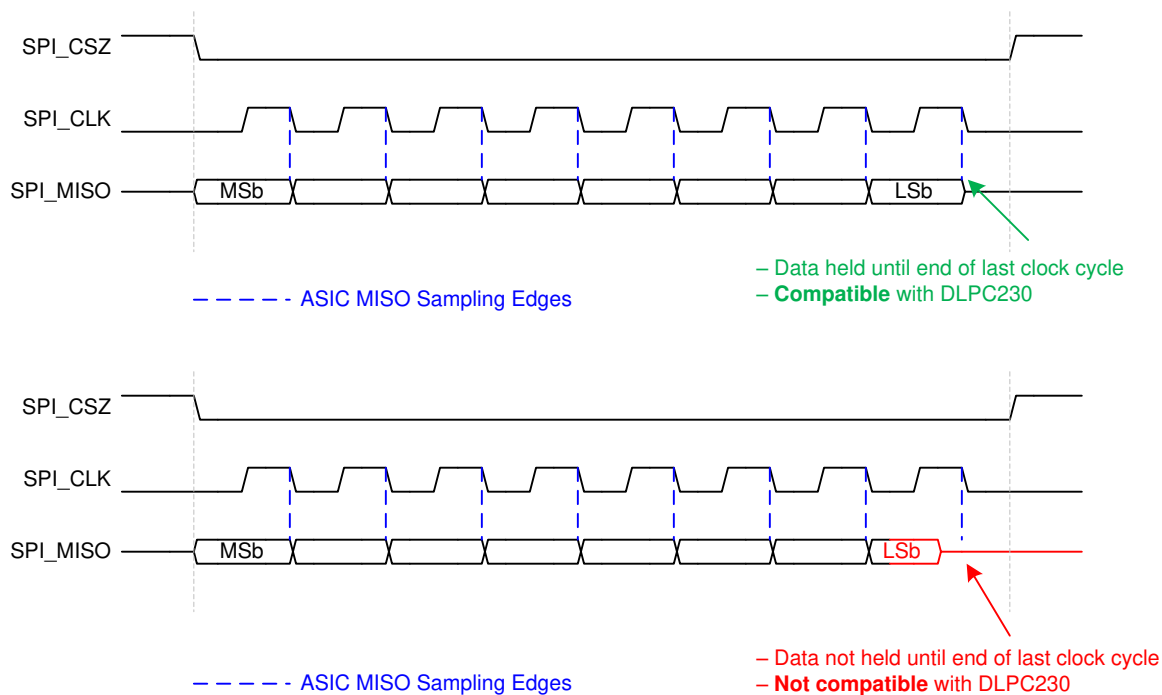

图 5-8. Flash Interface Data Capture Requirements
- (1) The DLPC23xS-Q1 communicates with flash devices using a slight variant of SPI Transfer Mode 0 (that is, clock polarity = 0, clock phase = 0). Instead of capturing MISO data on the clock edge opposite from that used to transmit MOSI data, the DLPC23xS-Q1 captures MISO data on the same clock edge used to transmit the next MOSI data. As such, the DLPC23xS-Q1 Flash SPI interface requires that MISO data from the flash device remain active until the end of the full clock cycle to allow the last data bit to be captured. This is shown in 图 5-8.
- (2) The actual maximum clock rate driven from the DLPC23xS-Q1 can be slightly less than this value.